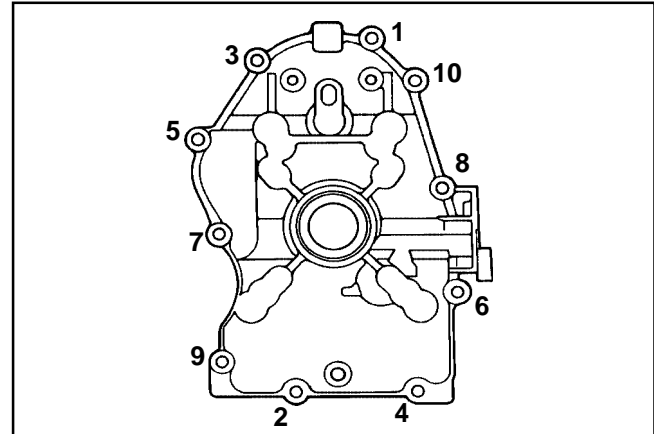

Figure 11-21. Closure Plate Fastener Torque Sequence.
- Install the ten hex. flange screws securing the closure plate to the crankcase. Torque fasteners in the sequence shown in Figure 11-21 to **24.4 N·m (216 in. lb.)**. On some engines one of the ten mounting screws is plated. The plated screw is typically installed in the #6 hole shown in Figure 11-21.